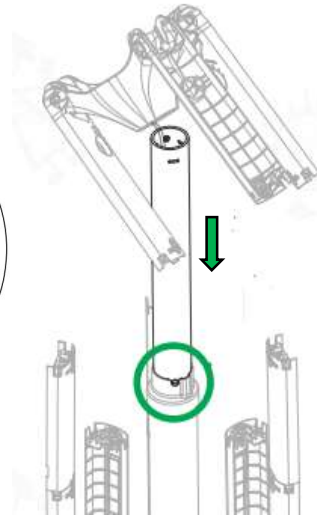
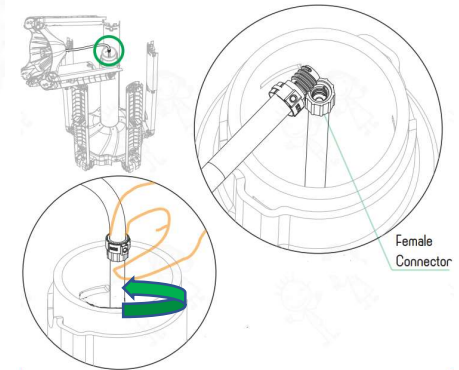

Figure 1.3
Figure 1.4
- C. While holding top hub, lower upper column (Figure 1.3) and disconnect the connector (Figure 1.4); set top hub assembly aside.